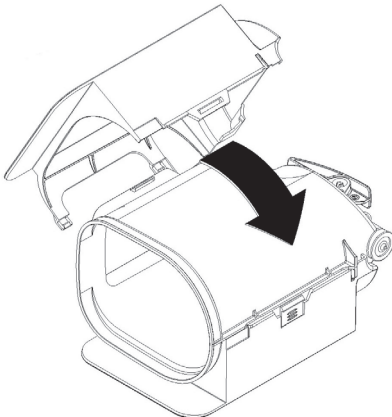

figure 16
- 2 Put the left-hand part of the recover into position and make sure that it fits into the illustrated groove. Click the two parts together. (see figure 16)